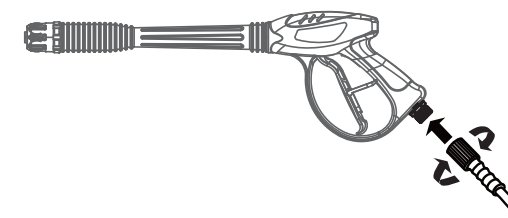

Fig 6
b. Connect one end of the high-pressure hose to the threaded joint of the spray gun by Rotating the collar nut of the high-pressure hose clockwise until it is hand tight. Figure 6